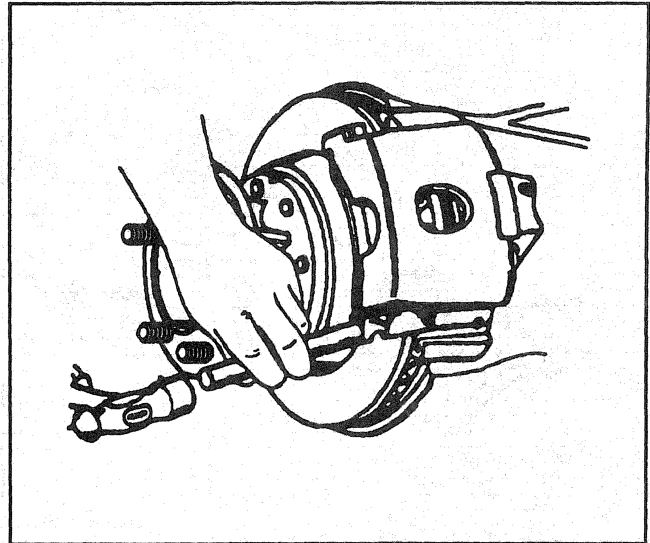

Figure 6—Installing the Caliper Support Key
- Use a brass punch and hammer to drive the support key in place (Figure 6).